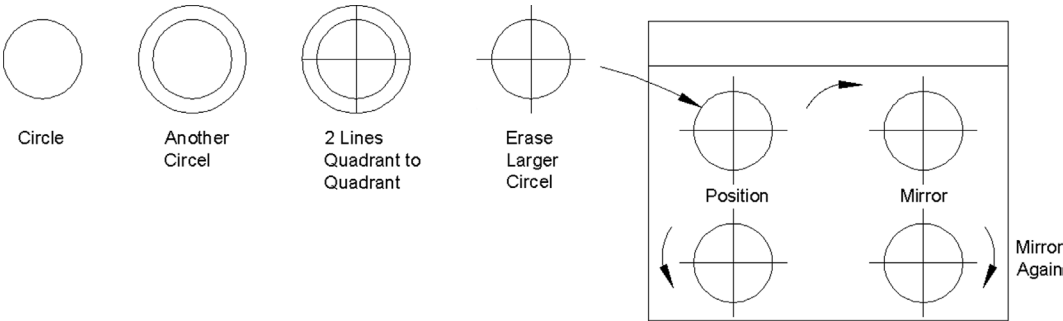

FIGURE 4.18 Constructing the range top.
- All kitchen furniture on the left side of the kitchen is formed using basic rectangles, drawn to no particular size. At the top left is a refrigerator with a microwave on top. Next to it is a countertop and a sink. Next to that is the range top with four burners. Fig. 4.18 is a suggested procedure for creating the range top. In Chapter 6, Dimensions, we cover some new ways to create center marks, just introduced in AutoCAD 2017, but here is the classic approach.